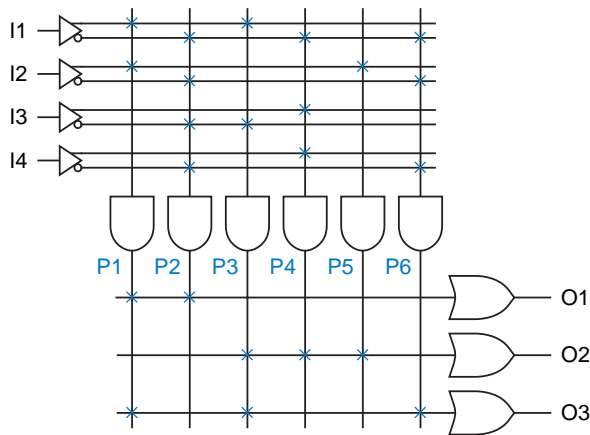

Figure 5: A 4×3 PLA programmed with a set of three logic equations.
- Programmed connection pattern in Fig. 5 matches these logic equations